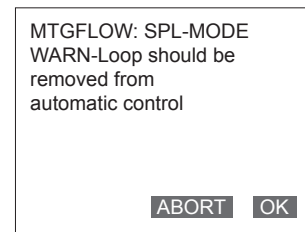

Fig. 7-64.
3. Fig. 7-64. will then appear. By pressing F4 (OK), the pulse output adjustment will start and the converter will output a pulse of 90 Hz. If it is fine, press F4 (OK).